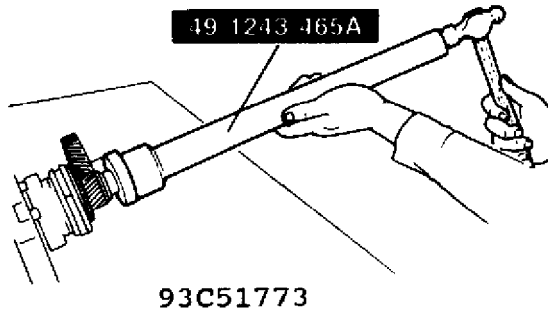

Fig. 4: Installing Rear Bearing (M-Types)
1. Drive on the mainshaft rear bearing using the SST, fully seating it against the front "C" washers. See Fig. 4.